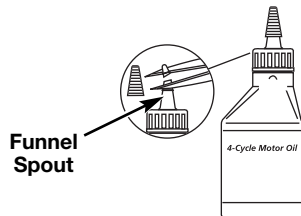

Fig. 16
Your unit is supplied with one 3.04 fluid oz. (90 ml.) bottle of SAE 30 SF, SG, SH oil (Fig. 16).
1. Unscrew the top of the bottle of oil and remove the paper seal covering the opening. Replace the top. Next, cut the tip off the funnel spout (Fig. 16).